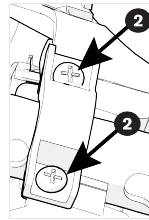

Figure 14
1. Place an anchor on top of an arm frame and secure it using two screws **2** (Figure 14).